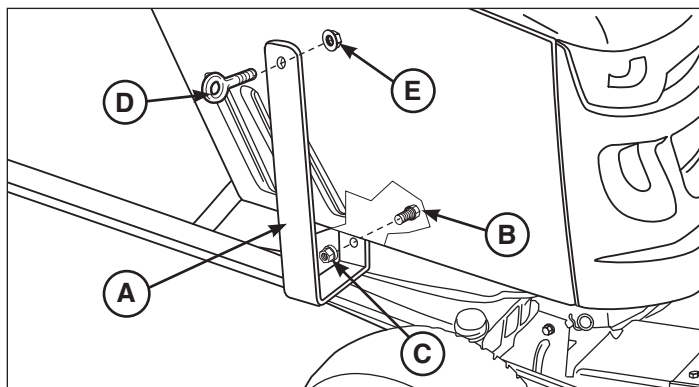

Figure 15
1. On right side of tractor, install the control arm support bracket (A, Figure 15) using a 1.00" cap screw (B) and flange nut (C) to the tractor frame.
2. On the outside of the control arm support bracket (A) install the short eye bolt (D), and secure with nut (E).